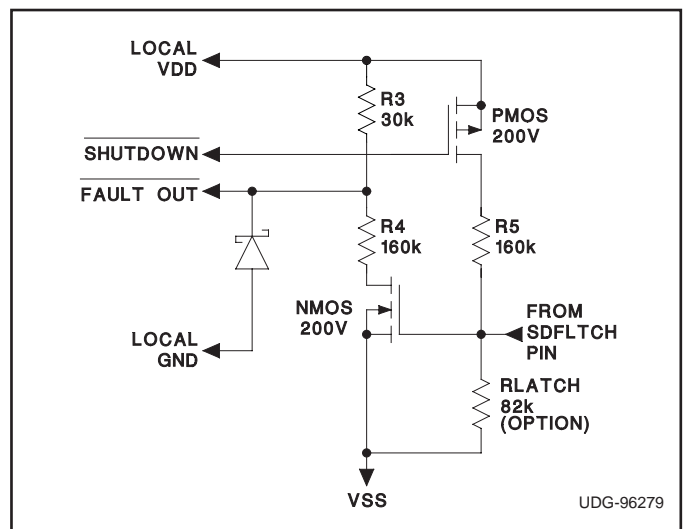

Figure 6. Possible Level Shift Circuitry to Interface to the UCC3921, showing component values selected for a typical telecom application.
Some type of circuit is needed to interface with the UCC3921 via SDFLTCH, such as opto-couplers or level shift circuitry. Figure 6 depicts one implementation of level shift circuitry that could be used, showing component values selected for a typical -48V telecommunication application. There are three communication conditions which could occur; two of which are Hot Swap Power Manager (HSPM) state output indications, and the third being an External Shutdown.
- 1) When open, and under a non-fault condition, SDFLTCH is pulled to a low state. In Figure 6, the N-channel level shift transistor is off, and the FAULT OUT signal is pulled to LOCAL VDD through R3. This indicates that the HSPM is not faulted.
- 2) When a fault is detected by the fault timer or under-voltage lockout, this pin will drive to a high state, indicating that the external power FET is off. In Figure 6, the N-channel level shift transistor will conduct, and the FAULT OUT signal will be pulled to a Schottky Diode voltage drop below LOCAL GND. This indicates that the HSPM is faulted. The Schottky Diode is necessary to ensure that the FAULT OUT signal does not traverse too far below LOCAL GND, making fault detection difficult.
If a  $5k < R_{LATCH} < 250k\Omega$  resistor is tied between SDFLTCH & VSS, as optionally shown in Figure 6, then the latched operating mode (described earlier) will be invoked upon the occurrence of a fault.